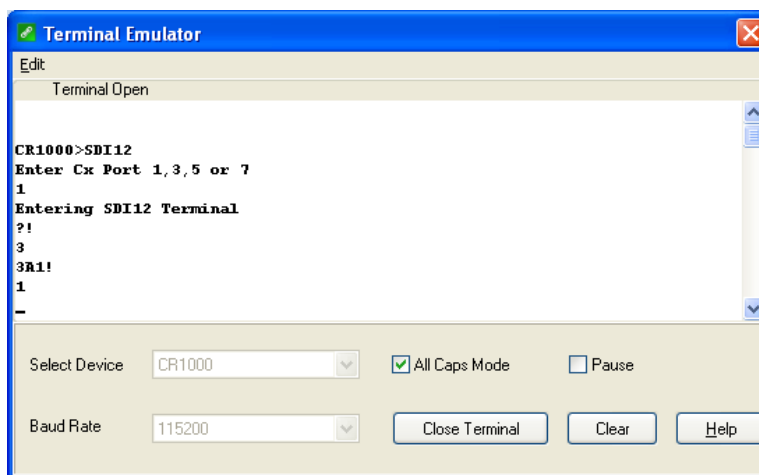

FIGURE D-2. CR1000 example of using the SDI-12 transparent mode to change the SDI-12 address from 3 to 1. Sensor is connected to control port 1.
6. To change the SDI-12 address, key in **aAb!** <enter>, where *a* is the current address from the above step and *b* is the new address (see FIGURE D-2). The C470/CS471 will change its address and the datalogger will respond with the new address. To exit SDI-12 transparent mode, select the **Close Terminal** button.